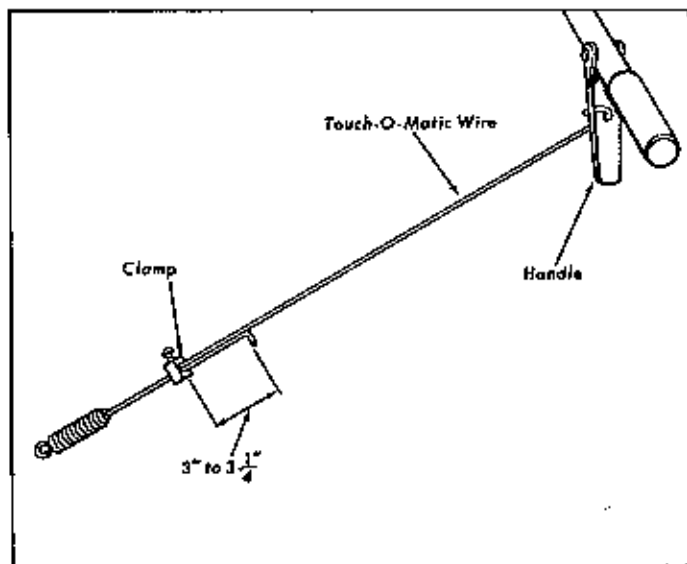

Figure 2
4. Insert the Touch-O-Matic extension wire through the wire clamp. For proper belt tension, adjust as shown in Fig. 2.